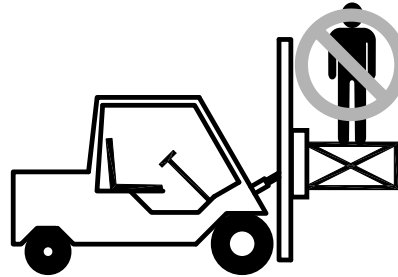

Figure 2-1
- Never stand on top of material being raised, lowered, or transported. (Figure 2-1)